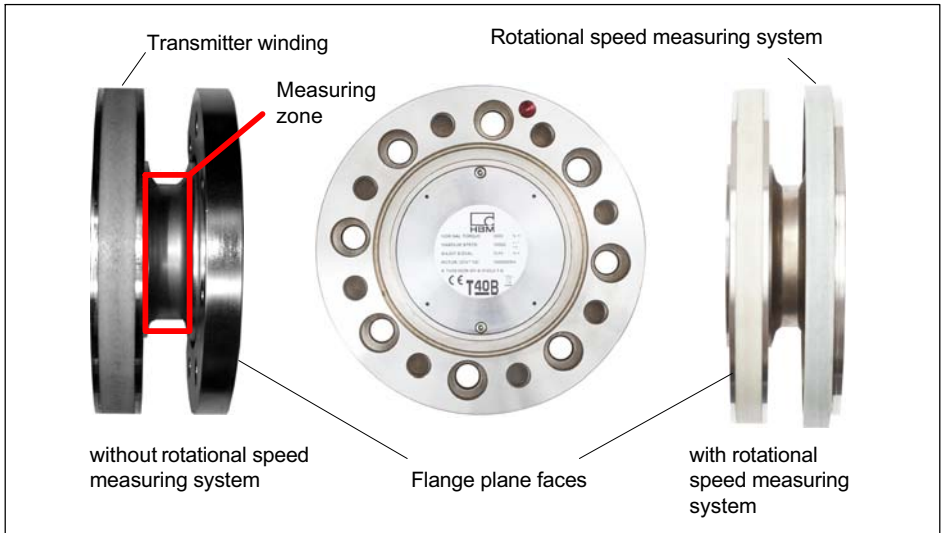

Fig. 5.1 Bolted rotor connection
*Make sure during installation that you do not damage the measuring zone marked in Fig. 5.1 by using it to support tools, or knocking tools against it when tightening screws, for example. This can damage the transducer and produce measurement errors, or even destroy the transducer.*
2. For the bolted rotor connection (see Fig. 5.1), use six or eight DIN EN ISO 4762 hexagon socket screws of the property class stated in Tab. 5.1, in a suitable length (dependent on the connection geometry, see Tab. 5.1 on page 26).